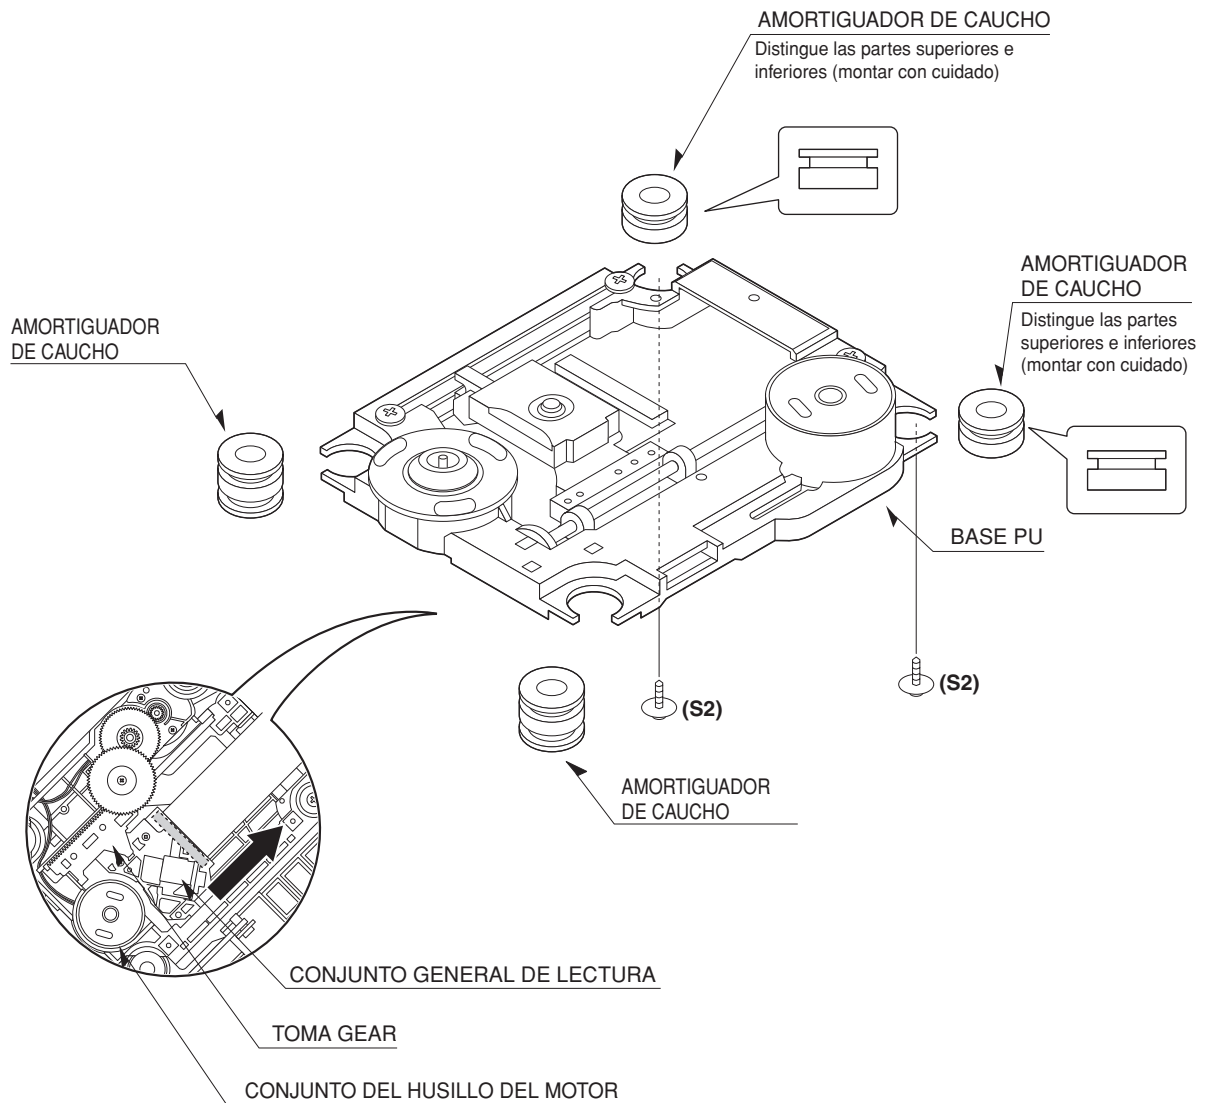

Fig. 4-3
3. SLED DEL CONJUNTO BASE (FIG. 4-3)
4. CAUCHO POSTERIOR (FIG. 4-3)